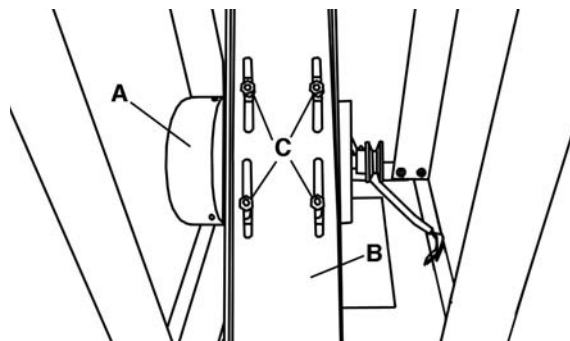
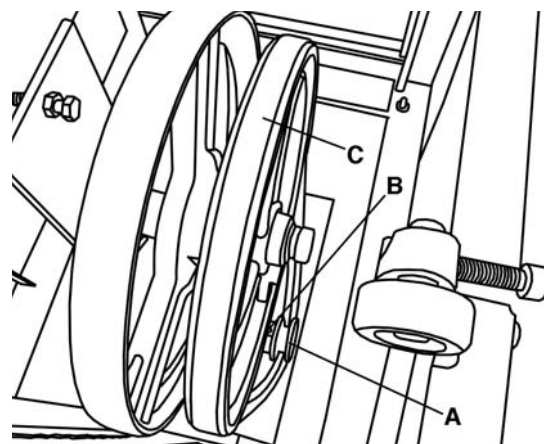

FIGURE 6
FIGURE 9
Motor- Assemble the motor (A) Fig.6 to the motor mount bracket (B). Make sure the motor pulley is aligned with the V-belt opening in the stand top. Fix the motor to the motor mount bracket using hex. bolts, spring washers, washers and hex. nuts (C). Do not completely tighten the hex. nuts at this time.
Before installing the V-belt, it is important to make sure that the motor pulley (A) Fig.9 is aligned with the upper pulley. If an adjustment is necessary, loosen set screw (B) which secures the motor pulley, adjust the motor pulley so it is in line with the upper pulley and retighten set screw.
To install the V-belt (C) Fig.9, loosen the motor mount bolts (C) Fig.6 and raise up the motor. Fit the V-belt around the motor pulley and the upper pulley. Release the motor, apply light downward pressure to tension the belt, there should be approximately 1/4" deflection in the V-belt. Retighten the motor mount bolts.